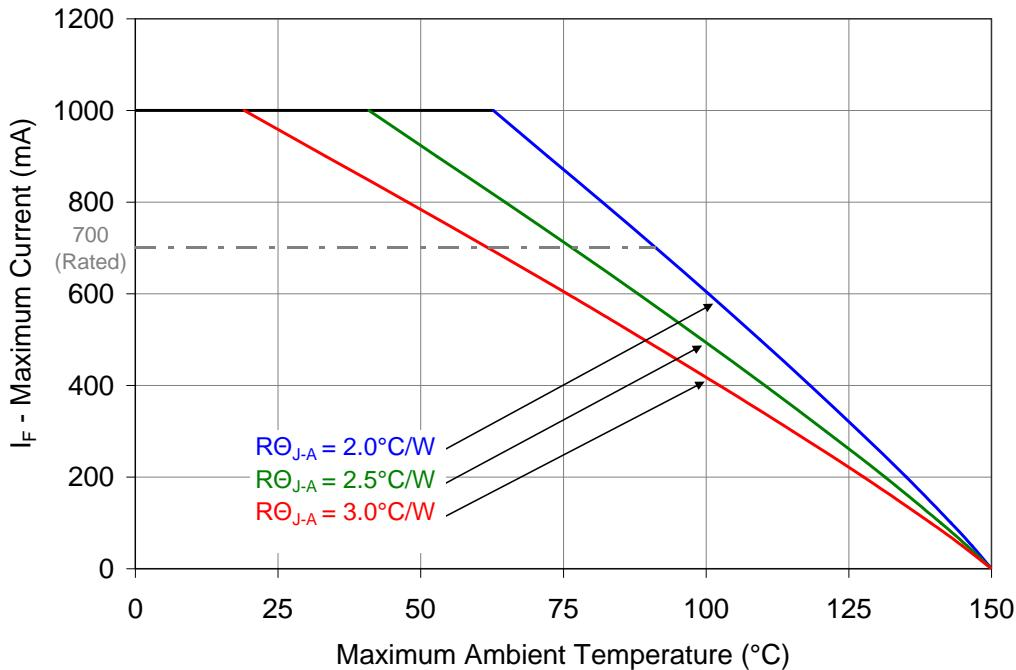

Figure 10: Maximum forward current vs. ambient temperature based on  $T_{J(MAX)} = 125^\circ\text{C}$ .
1. Maximum DC forward current (per die) is determined by the overall thermal resistance and ambient temperature. Follow the curves in Figure 10 for current derating.
Notes for Figure 10: